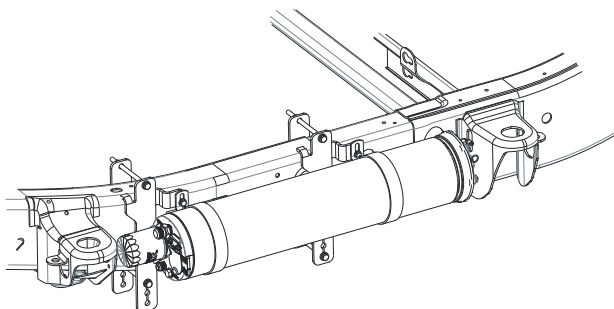

Figure 4. 3
- ☐ Place the backing plates in position on the inside of the frame, one in front of the transmission cross-member and one behind, (Figure 4. 3).